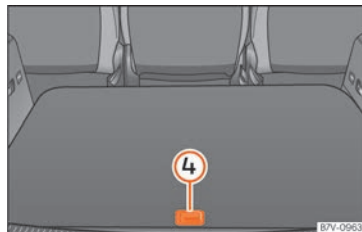

Fig. 192 Other compartments in the boot floor.
Open the rear compartment »» Fig. 192 ④:	▷ Lift the rear of the boot floor using the handle.